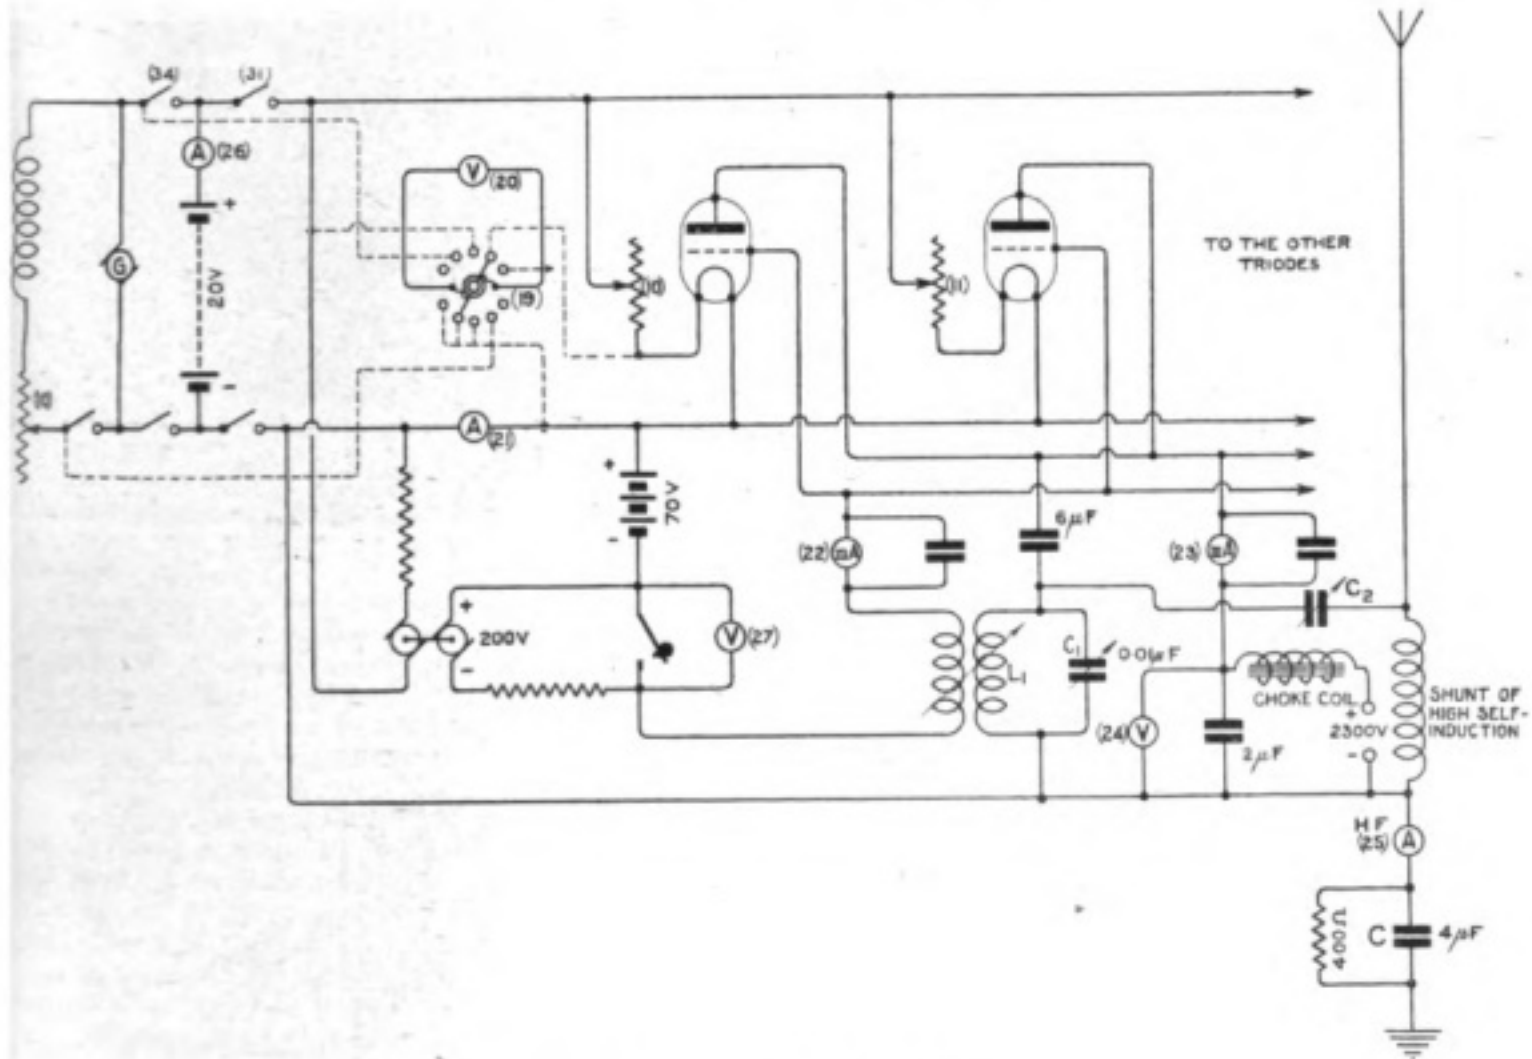

Fig. 4. Transmitter Circuit.
The filament current is supplied by a battery containing 10 units of 300 ampere hours. This battery normally works in parallel with a shunt-generator capable of giving 50 amperes at a tension up to 30 volts, the excitation of the machine being controlled by the rheostat 10 (Figs. 4 and 5).
To signal, the grid is made very negative by introducing a supplementary negative potential of about 200 volts (Fig. 4), which may be read on the small voltmeter (27). This negative tension is supplied by a small D.C. motor-generator, with two commutators, on one of which 20 volts is placed to work the machine, while from the other a tension of about 200 volts is taken. This dynamo starts automatically when the triodes are lighted.